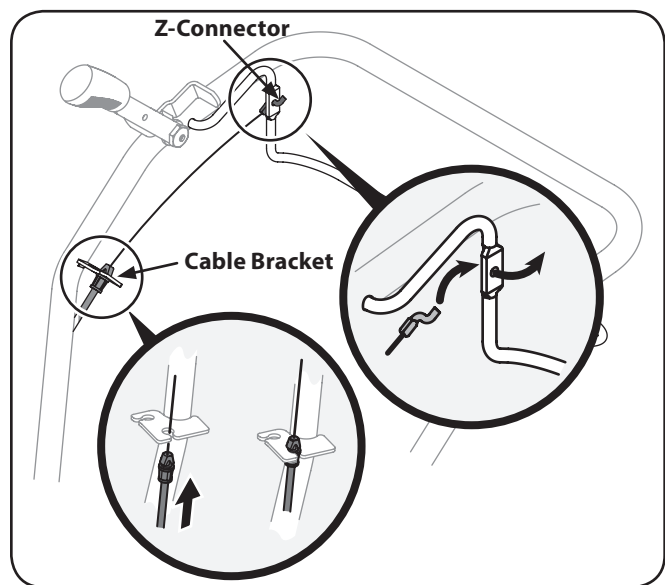

Figure 3-7
- Pull the cable up through the bottom hole of the cable bracket and push the cable connector up through the hole until the groove in the connector snaps into place. See Fig. 3-7.
- Place the Z-connector into the hole in the forward clutch bail from the outside of the bail to the inside. See Fig. 3-7.